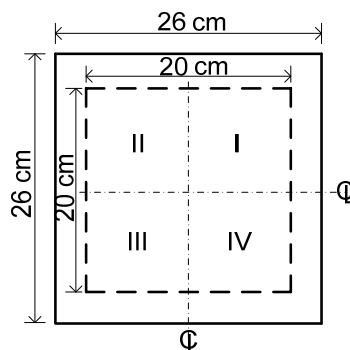

Figure 1. The allowable site area of the model.
4.1 Basic Requirements	<p>4.1.1 Each team has 5.5 hours in total for constructing their building model.</p> <p>4.1.2 The structural components should be composed of the materials provided by the organizer. For example, the structural components can combine with a single wooden stick, multiple wooden sticks, strings, rubber bands and papers.</p> <p>4.1.3 Models must be constructed on the base board (26 cm × 26 cm × 0.55 cm) provided by the organizer. A 3 cm clearance around the edges of the base board must be kept in order to fix the model onto the shaking table.</p> <p>4.1.4 There is only a load platform for each model. The number of mass blocks is from 12 to 24, and two layers of mass blocks are the maximum limit.</p> <p>4.1.5 The vertical projection of the entire model and mass blocks must be located in the 20 cm × 20 cm central area of the base board (i.e., the area enclosed by the dashed lines shown in Fig. 1). Any material (hot-melt glue included) must not contact the fourth-quadrant (IV) base board. In addition, the number of the mass blocks completely, not including partially, located on the fourth-quadrant load platform must be not less</p>